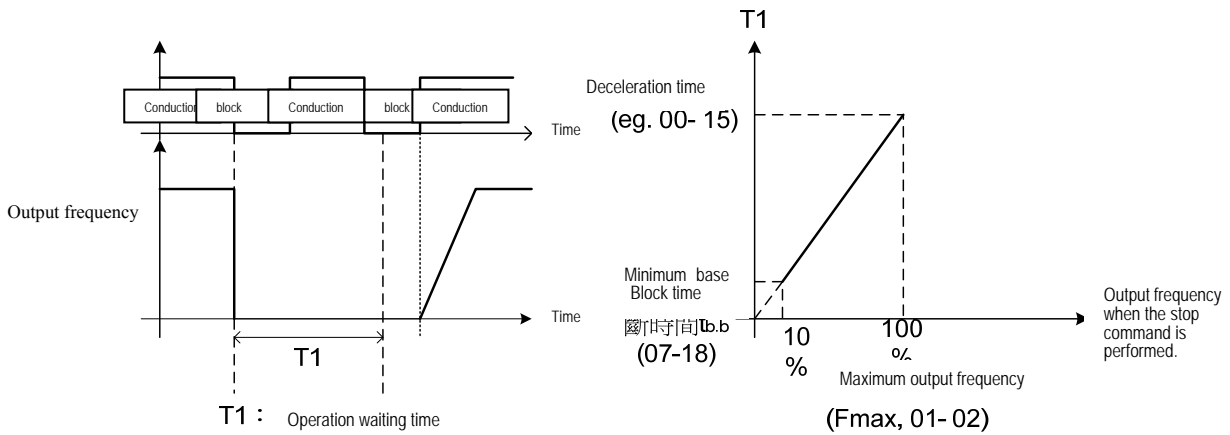

Figure 4.3.61 Coast to stop with timer
(4) 07-09=3
- . Please refer to Figure 4.3.61